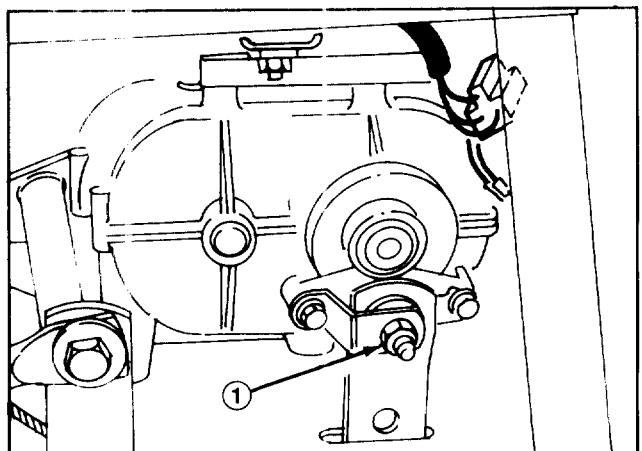

Figure 28
2. Tighten locknut approximately 1/4 turn clockwise (Fig. 28)